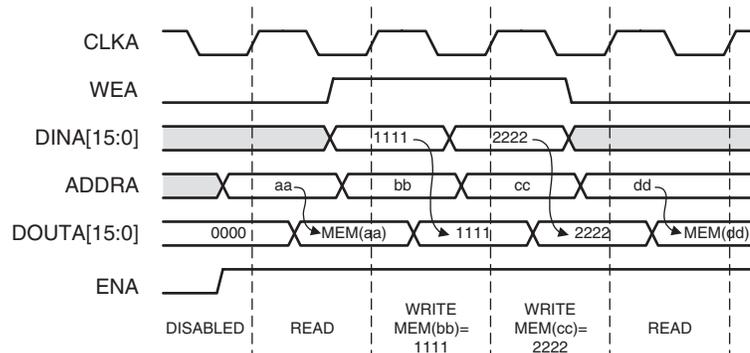

Figure 8: Write First Mode Example
- **Write First Mode:** In WRITE_FIRST mode, the input data is simultaneously written into memory and driven on the data output, as shown in Figure 8. This transparent mode offers the flexibility of